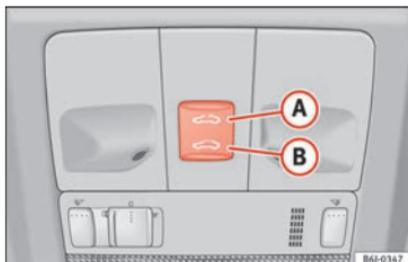

Fig. 8 On the interior roof lining: Panoramic sunroof controls
- Opening: Press the **» Fig. 8 A** button once only. If you keep it pressed down, it will open to the desired position.
- Closing: Press the **» Fig. 8 B** button once only. If you keep it pressed down, it will close to the desired position.